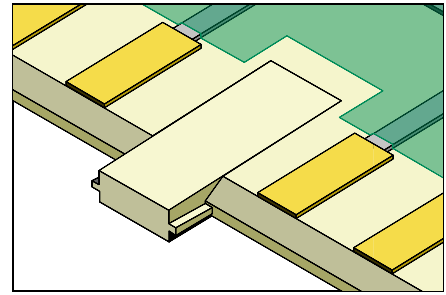

Figure 4: Insert the replacement piece into the slot.
12. Insert the replacement piece into the slot. Check alignment. Remove excess epoxy. (See Figure 4).